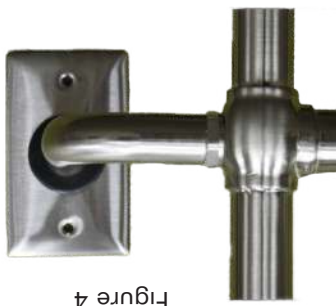

Figure 4
Hardwire Connection (see figure 4)
Étape 3 Connexion filaire (voir figure 4)